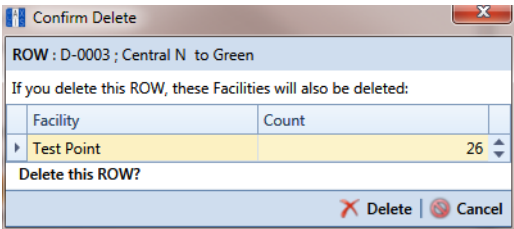

Figure 4-9. Confirm Delete
- 2 Click **Delete** to open the *Confirm Delete* dialog box (Figure 4-9, page 110). Or, right-click the selected pipeline in the hierarchy tree and select **Delete** in the shortcut menu to open the *Confirm Delete* dialog box.
NOTE: The *Confirm Delete* dialog box identifies the pipeline and number of associated facilities to be deleted in the *Count* column (Figure 4-9, page 110).